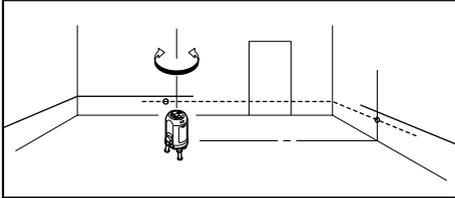

Fig. 8
- 1) Place the unit on the floor of an indoor corner at the point of 3 to 5 m from the one wall and 1 m from the another one. (See the Fig.8) Turn the level adjusting ring (9) so that the air-bubble in the round vial (4) is centered.
- 2) Turn on the power switch (12).